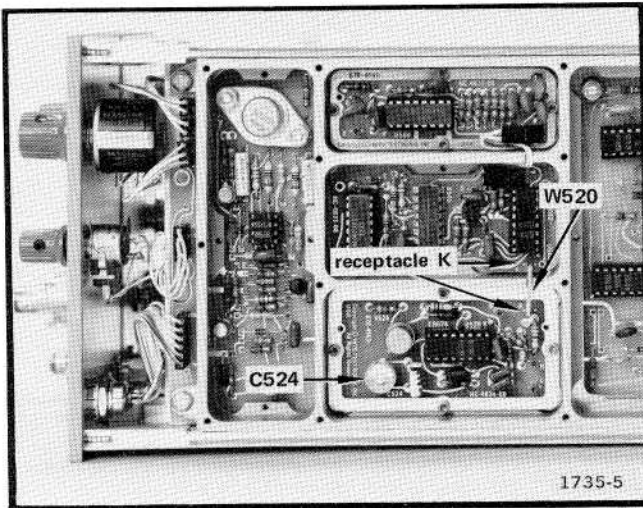

Fig. 4-2. Location of receptacle K, W520, and C524.
a. Connect a frequency counter, through a 1X probe, to receptacle K or W520; and the Input to a vertical amplifier, through a 10X probe, to receptacle K or W250 (Fig. 4-2).
b. Adjust the Mode Adjust C524 (Fig. 4-2) so the 52.5 MHz oscillator starts at any position of the TRACKING ADJUST control as the power is turned off and on. (Power should be off long enough for the supply voltage to decay before switching back on.)